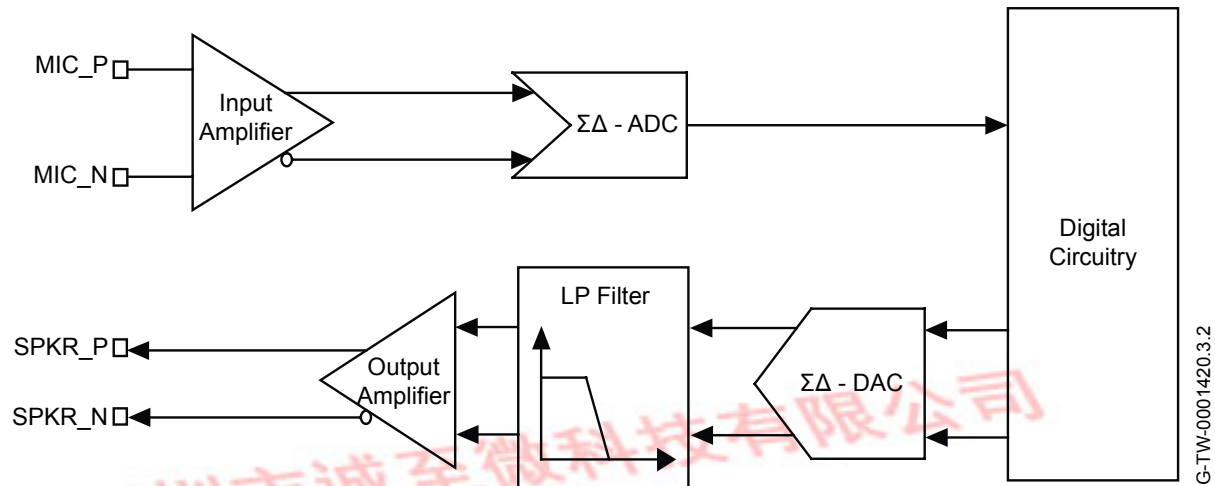

Figure 8.1: Mono Codec Audio Input and Output Stages
- A second-order Sigma-Delta converter, as Figure 8.1 shows.